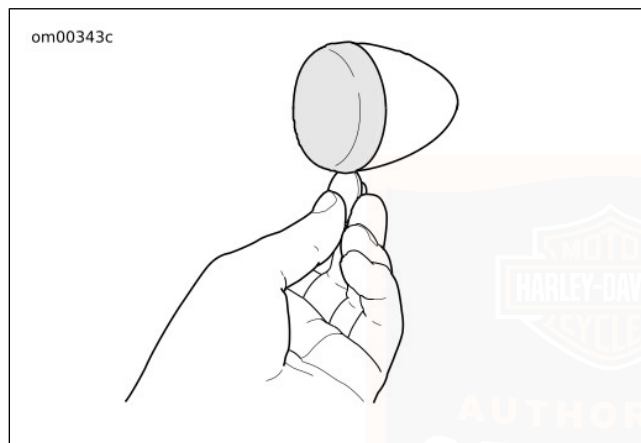

Figure 44. Remove Lens
1. See Figure 44. Insert a coin or the blade of a small screwdriver into the notch at the bottom of the lens cap. Carefully twist until the lens cap pops out of the lamp housing.